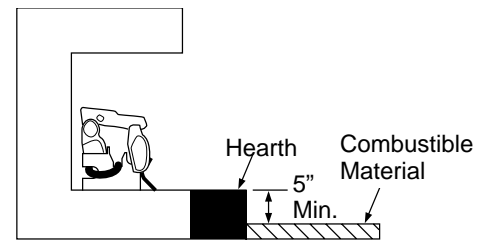

Figure 9 - Minimum Fireplace Clearances Above Combustible Flooring
- If combustible materials are less than 14" to the fireplace, you must install appliance at least 5" above the combustible flooring (see Figure 9, page 9).